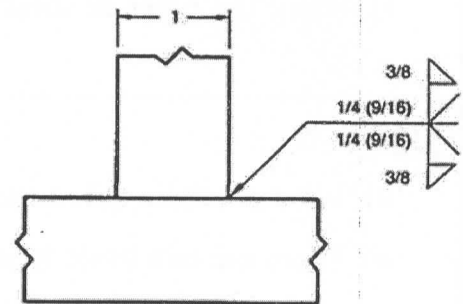

Fig.1
- Explain with drawing the meaning of the following welding symbol as shown in Fig.1?